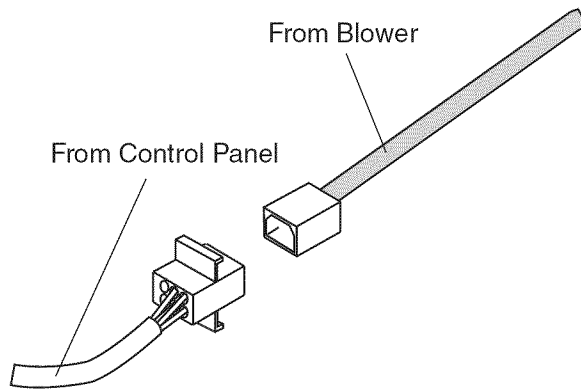

Figure 19: Wiring the Hood with an Integral Blower
3. Connect the blower's Molex plug connector to the connector present inside the hood as shown in Figure 19.